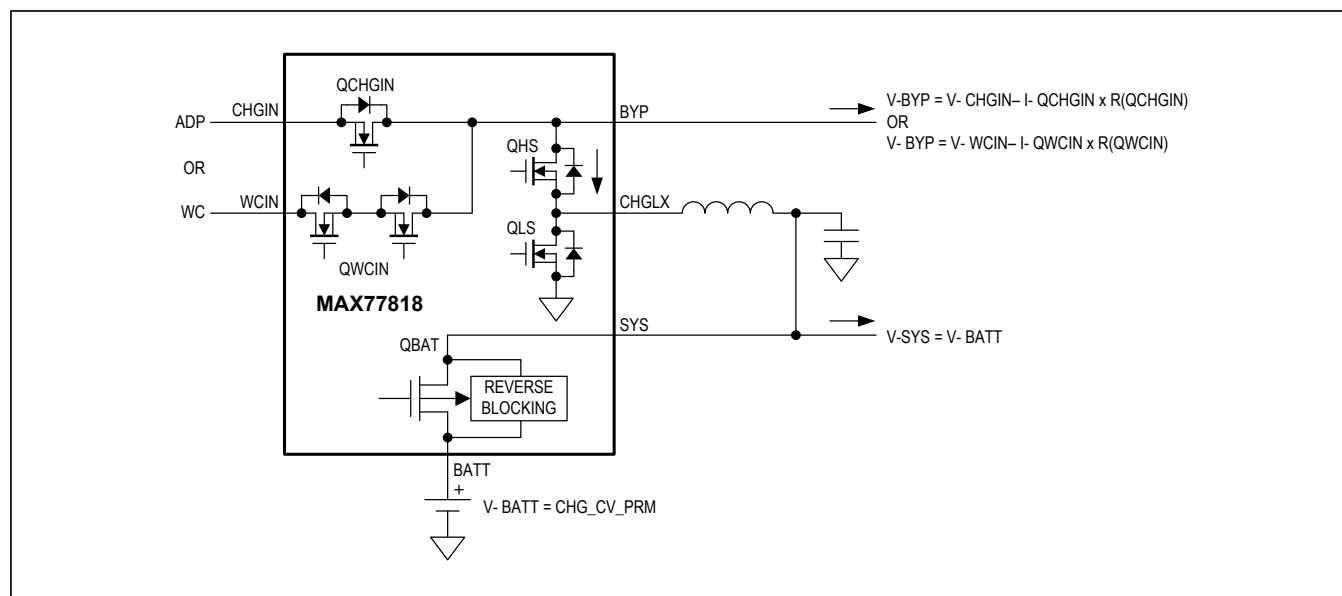

Figure 13. No Charge Buck
**No Charge Buck, MODE = 0x0C:** Adapter or wireless charger are detected, within the input voltage operating range (QCHGIN = on or QWCIN = on). Battery is disconnected (QBAT = off), and charger is operating in buck mode powering the SYS node. See Figure 13.